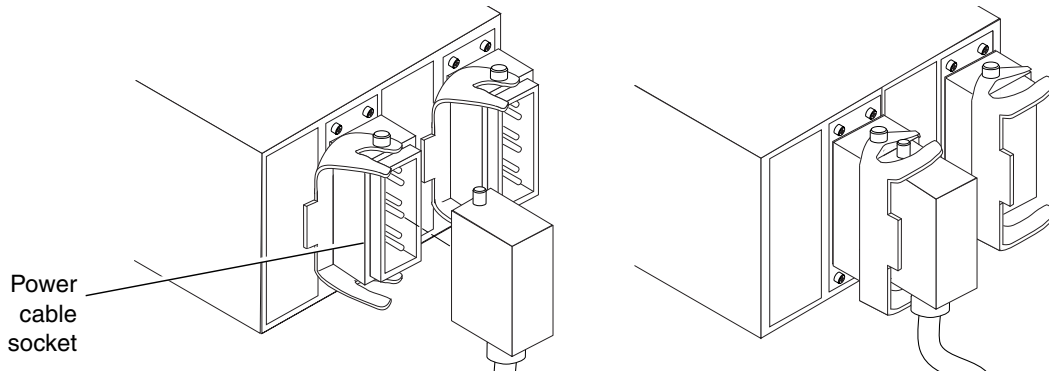

FIGURE 2-10 Connecting Power Cables to the RTS Module
7. Connect the power cable to the RTS module and lock the connector with the lock lever (FIGURE 2-10).